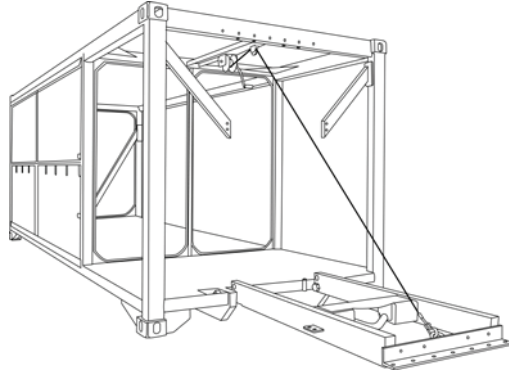

Figure 7. Flat Rack Bail Bar Lowered.
- c. Turn the winch crank handle to lower the bail bar to the desired position (see Figure 7).